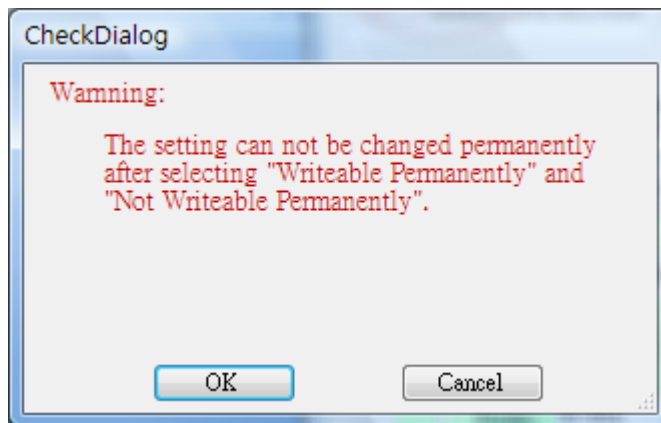

Figure 41
7. The kill and lock function would not be change permanently, please confirm again as figure 41.